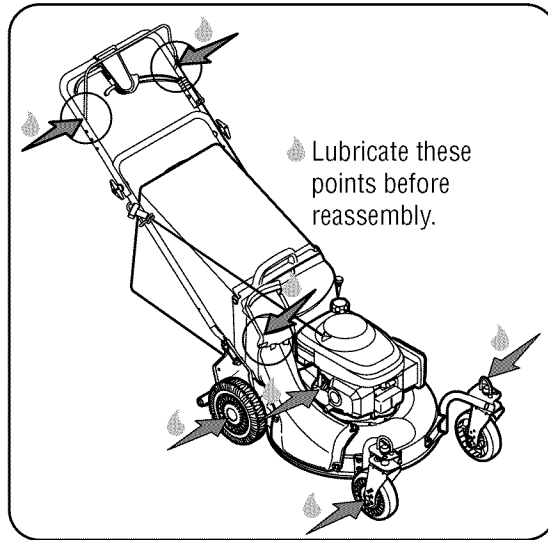

Figure 11
1. Lubricate pivot points on the blade control at least once a season with light oil. The blade control must operate freely in both directions. See Figure 11.
2. Lubricate the wheels at least once a season with light oil (or motor oil). If wheels are removed for any reason, lubricate the axle bolt and inner surface of the wheel with light oil. See Figure 11.
3. Lubricate the torsion spring and pivot point on each end of the adapter door at least once a season with light oil to prevent rust. See Figure 11.